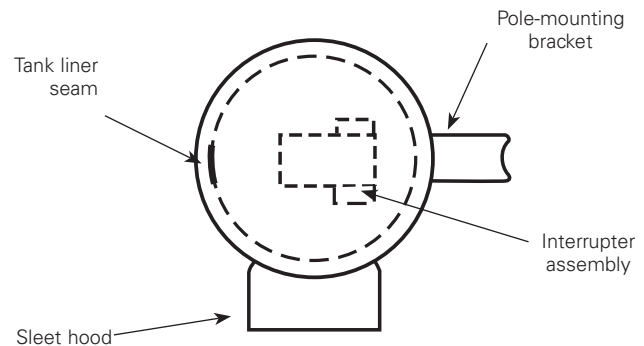

Figure 7. Orientation of tank liner
1. Bypass and remove the recloser from service. To remove from service, close the bypass switch and open the disconnect switches. See Figure 7.